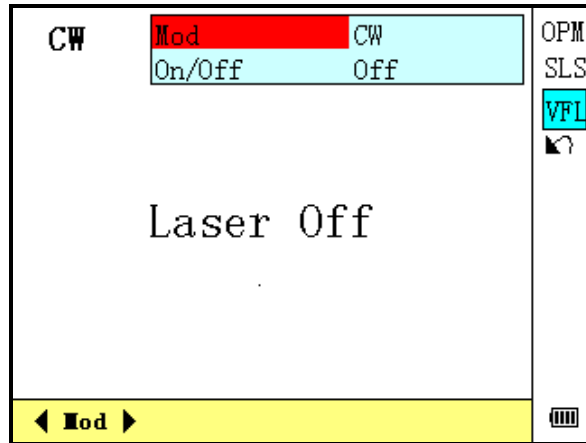

Figure 4-14. Visible Fault Locator Setting
- Use [◀] and [▶] to toggle between VFL working modes. Press [Enter] to enter VFL setting interface as shown in Figure 4-14.